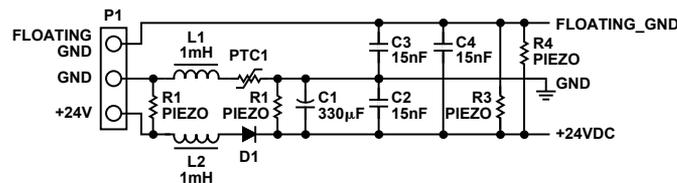

Figure 13. Power supply input protection.
**Power Supply Input Protection:** The PLC evaluation system uses best practices for electromagnetic compatibility (EMC). A regulated dc supply (18 V to 36 V) is connected to the board through a 2- or 3-wire interface. This supply must be protected against faults and electromagnetic interference (EMI). The following precautions, shown in Figure 13, were taken in the board design to ensure that the PLC evaluation system will survive any interference that may be generated on the power ports.